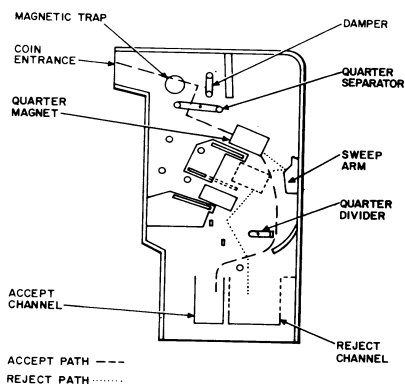

Fig. 4—Quarter Path in a Typical Coin Chute
**2.05 Quarter Operation—Valid Coin Accepted (Fig. 4).**
**2.06 Quarter Operation—Coin Rejected (Fig. 4).**